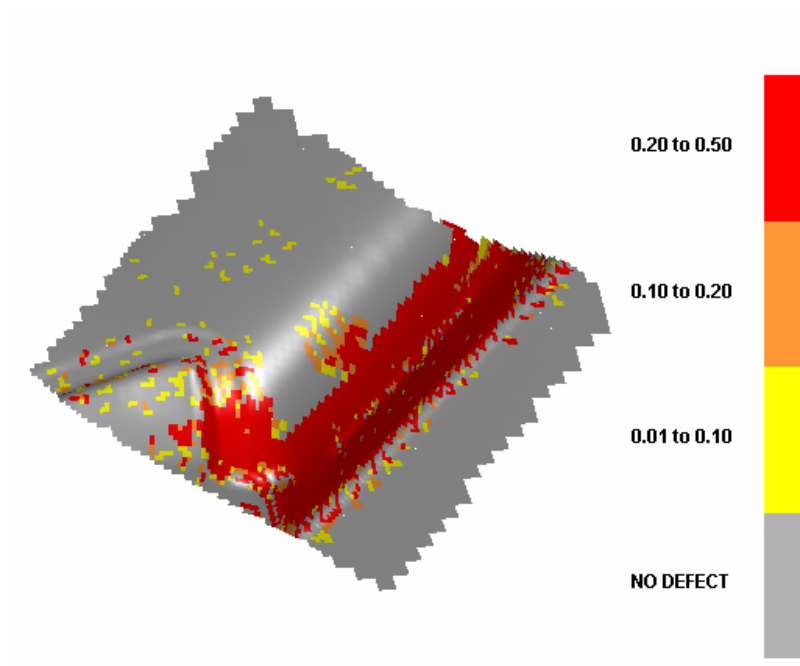

Figure 7.13.3 An Example of Detect Defection
5. Click **SHOW DEFECT** to displayed the defect contour as shown in Figure 7.13.3. The contour color is based on the surface defect over the stone length. The red color shows the area on the mesh with the highest defect level.